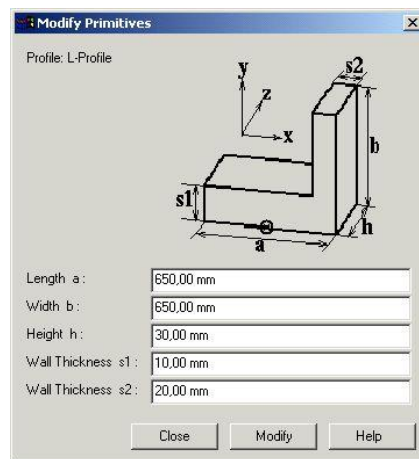

Figure 64: Example – Change Parameter Dialog – Primitive (Modify Primitives)
6) Click **Close** to save the changes. *Please refer to the Figure 64.*